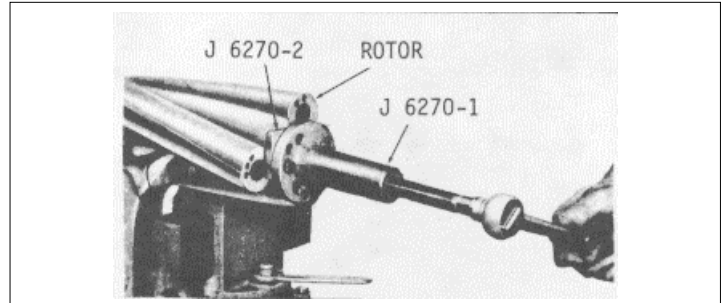

Fig. 6
- (c) Refer to Fig.6 and place the seal ring carrier remover adaptor J 6270-2 over the carrier. Make sure the adaptor is seated in the groove of the carrier.
- (f) Turn the puller screw clockwise and pull the oil seal ring carrier and roller bearing inner race (front end of blower rotors only) from the rotor shaft (Fig. 6).